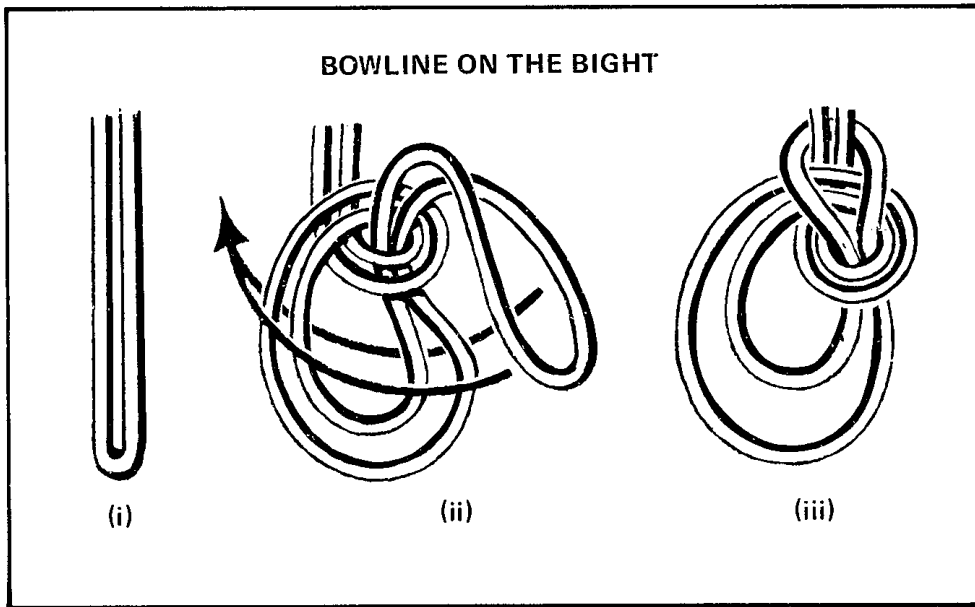

Figure 4-56 Bowline on the Bight
5. **Bowline on the Bight** — (See Figure 4-56.) As its name implies, this bowline is made on the bight, the first two operations in its formations being the same as for a simple bowline. **It is used for lowering a man from aloft** or over the ship's side, the short bight being placed under his arms and the long one under his buttocks.